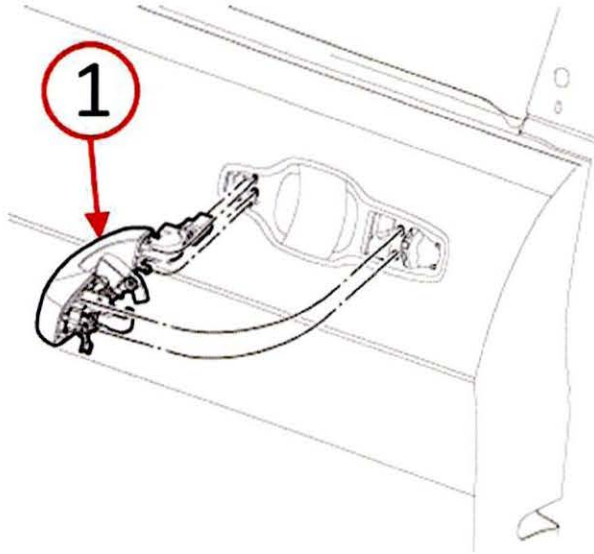

Fig. 1 Remove Door Handle
1. Remove the left front exterior door handle (Fig. 1). Refer to the detailed removal procedure available in: DealerCONNECT> TechCONNECT under: Service Info> 23 - Body/Door - Front> HANDLE, Exterior> Removal.